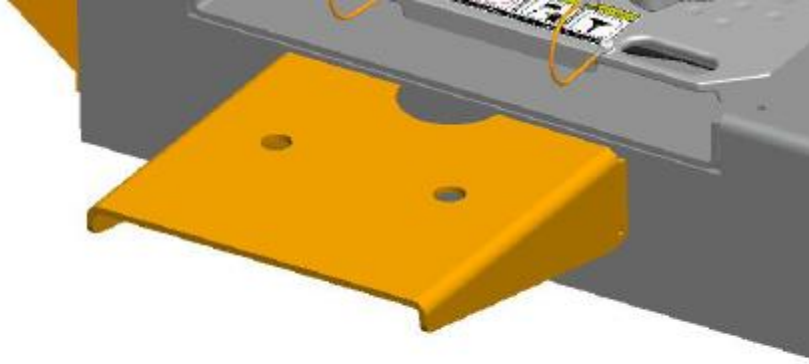

Figure 27 - Position Movable Work step
3. Position the moveable work step in the desired location. There are slots along the span of each runway where the work step can be mounted. When not in use, the work step can be stored under the front section of the runway. (See Figure 27)